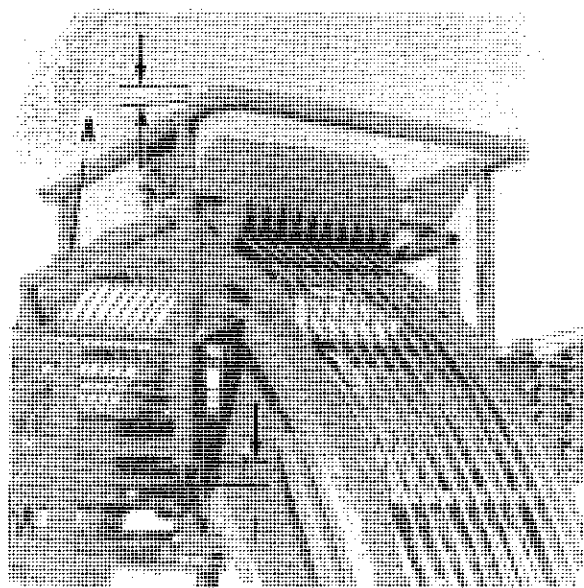

FIGURE 56 - STRIPPER INSTALLATION
Lift the stripper into its position and attach with four (4)  $\frac{5}{8}$ " x 3  $\frac{1}{2}$ " carriage bolts (A), four (4)  $\frac{5}{8}$ " lock washers and four (4)  $\frac{5}{8}$ " hex nuts as shown (see figure 56).
The shorter eyebolt on one end of the spring goes up. Adjust the nuts so the distance between the stripper frame and the end of the upper eyebolt is 1"; adjust the lower eyebolt so the distance between the bottom of the bracket and the end of the eyebolt is 2  $\frac{1}{2}$ " (see figure 56).
Turn the wheel elevator through one or two complete revolutions and slide stripper supports right or left to eliminate interference (see figure 56).